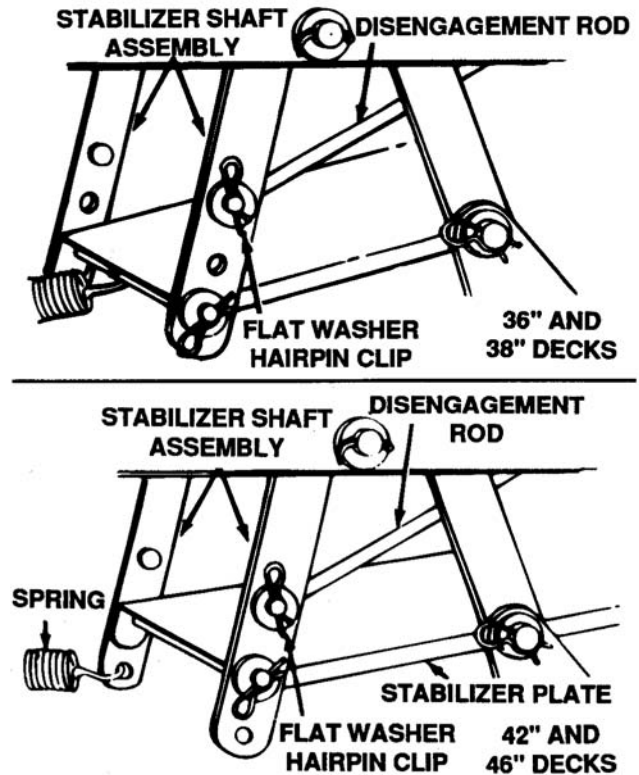

Figure 12-45. Deck Disengagement Adjustment Rod
2. Disconnect the disengagement rod from the stabilizer shaft assembly by removing the hairpin clip and flat washer. See Figure 12-45.